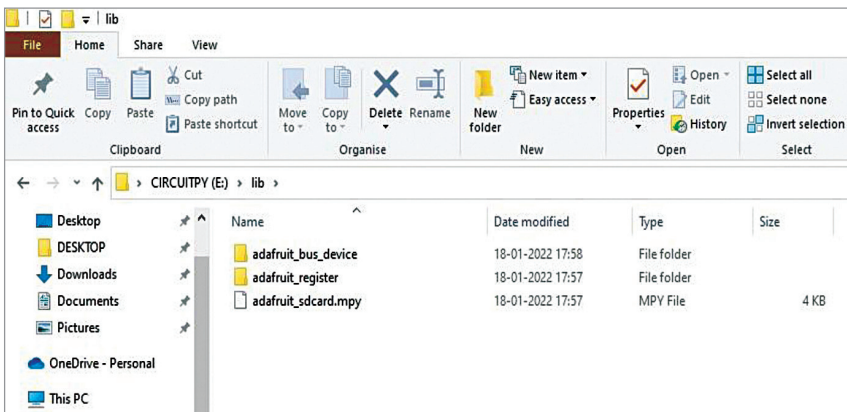

Fig. 8: CIRCUITPY drive
Unzip the Bundle folder and copy *adafruit_bus_device* and *adafruit_register* folders, paste them into 'lib' folder in CIRCUITPY(E) drive. Also copy *adafruit_sdcard.mpy* file from the Bundle folder and paste into 'lib' folder, as shown in Fig. 8.